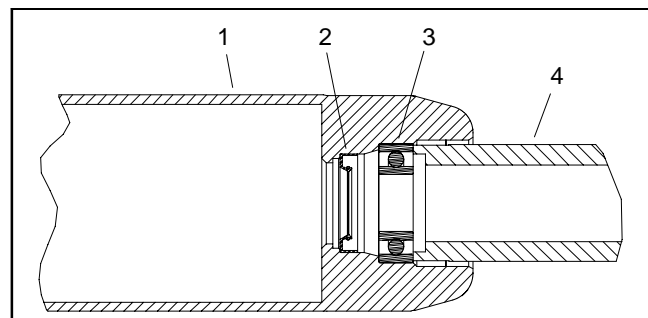

Figure 13
A. Position a new bearing into one end of roller tube. Use bearing/outer seal tool (see Special Tools) with a soft face hammer to fully seat bearing against roller shoulder (Fig. 13). After bearing installation, make sure that it rotates freely with no binding.